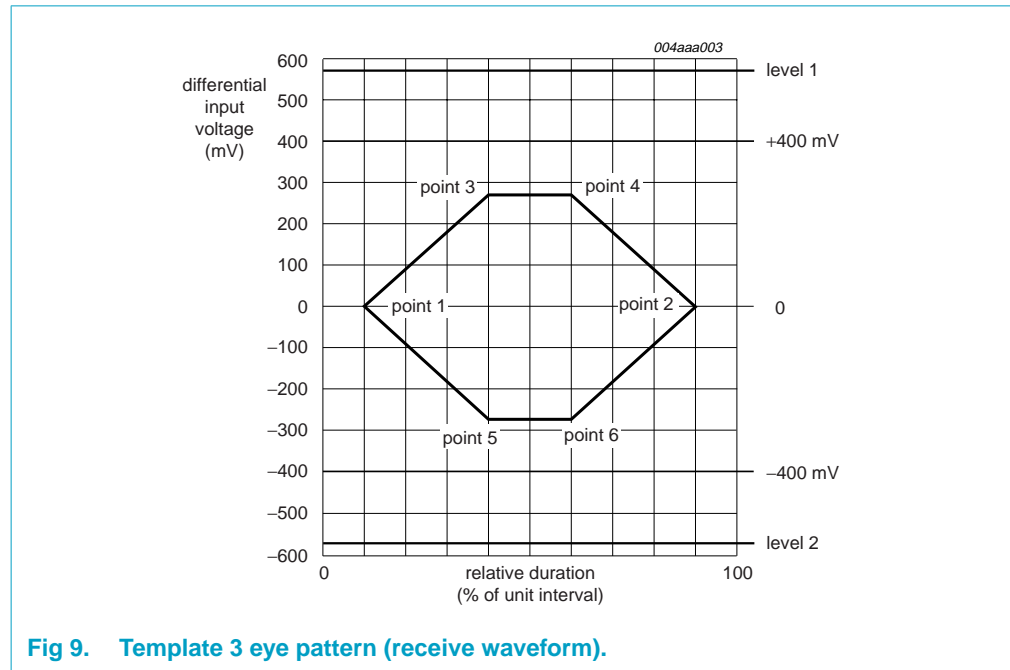
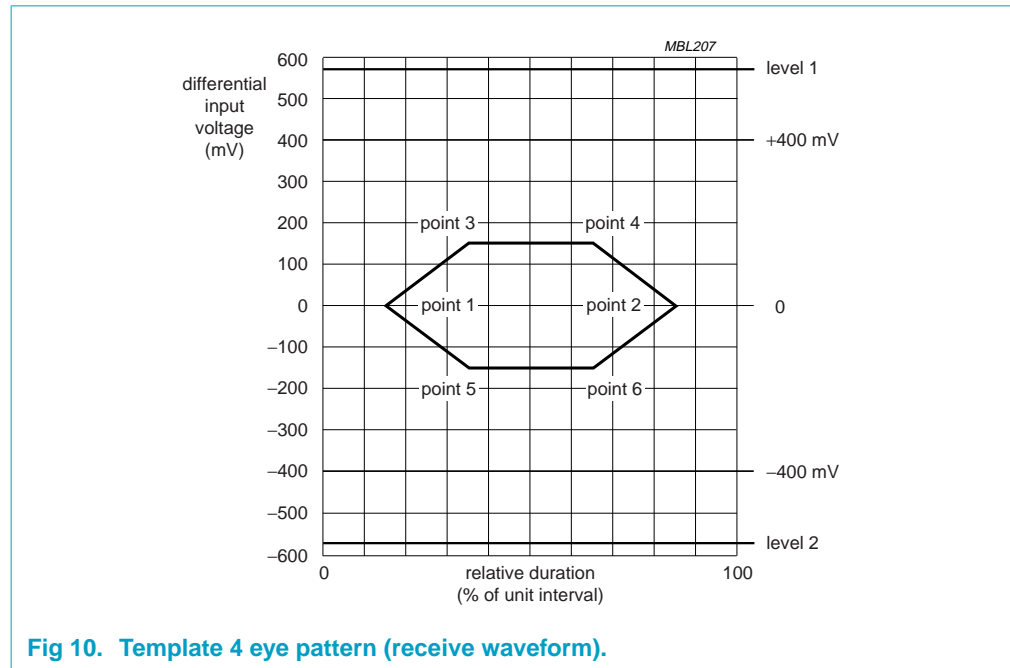

Fig 9. Template 3 eye pattern (receive waveform).
Fig 10. Template 4 eye pattern (receive waveform).
| - | data source jitter and receiver jitter tolerance | eye patterns of Template 3 and Template 4; see Figure 9 and Figure 10 | [3] | see Table 80 | | |
The eye pattern defined in Figure 9 defines the receiver sensitivity requirements for a device with a captive cable (signal applied at test point TP2). The corresponding signal levels and timings are given in Table 79. Timings are given as a percentage of the unit interval (UI), which represents the nominal bit duration T_{PERIOD} for a 480 Mbit/s transmission rate.
The eye pattern defined in Figure 10 defines the receiver sensitivity requirements for a hub (signal applied at test point TP2) or a device without a captive cable (signal applied at test point TP3). The corresponding signal levels and timings are given in Table 80. Timings are given as a percentage of the unit interval (UI), which represents the nominal bit duration T_{PERIOD} for a 480 Mbit/s transmission rate.